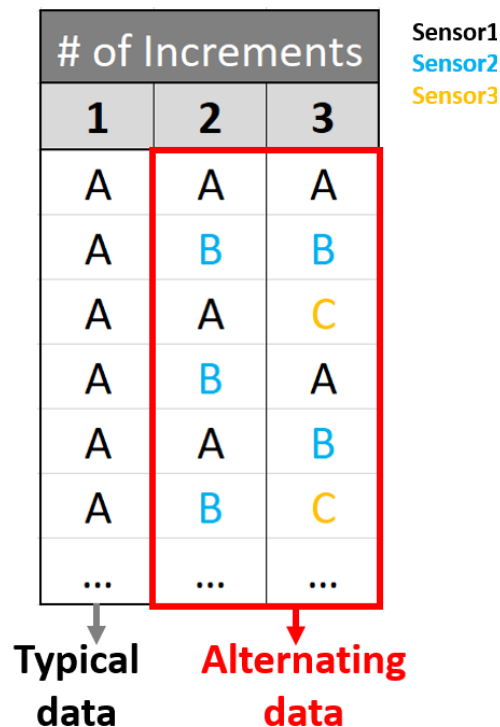

Figure 13.9: Increment Schematic
- The **Increment** parameter is used for very specific niche cases where data is not organized by column, and instead data from separate sensors/channels are alternated within a column, as in columns 2 and 3 of Fig. 13.9. The number of interleaving signals corresponds to the number of increments (Fig. 13.9).